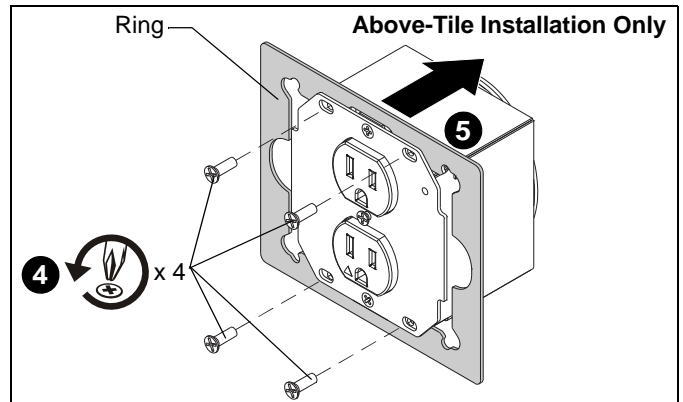

Figure 7
4. Remove four Phillips screws from ring attached to outlet box. (See Figure 7)
5. Remove and discard ring from outlet box. (See Figure 7)